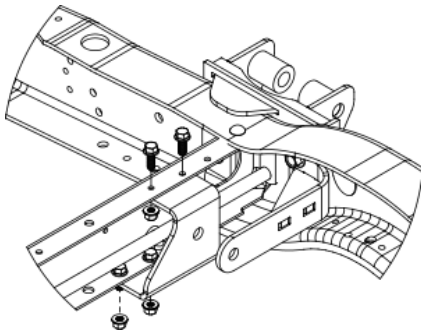

Figure 23. Track rod mount attachment. Some components not shown for clarity.
9. Locate the Track Rod Mount and loosely attach to the aft of axle cross-member using the (4) 3/8-16 x 1.00 Hex Flange Bolts, two of which are already inserted in the cross-member and (4) 3/8-16 Locking Flange Nuts. See Figure 23